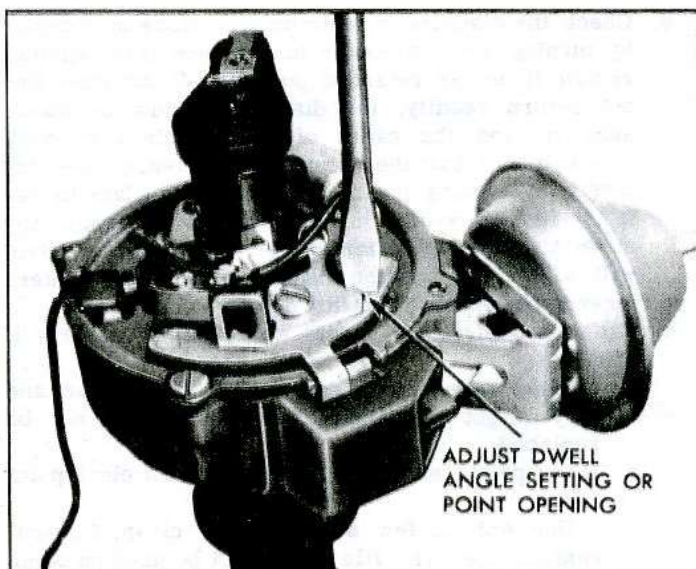

Fig. 2—Point Adjustment
10. Adjust distributor contact point gap to .019" (new points) or .016" (used points), using a feeler gauge or dial indicator (fig. 2). Breaker arm rubbing block should be on extreme top of cam lobe during adjustment.